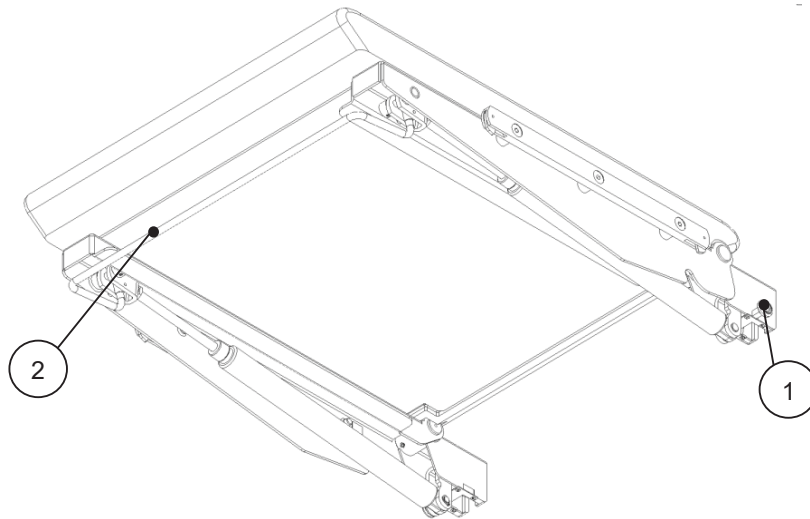

Fig. 8 Footrest plate
The footrest plate (fig. 8) is installed on the wedges found at the end of the seat. To install the footrest, put the footrest wedge socket on the wedge spigot in the seat. In order to do that the button does not have to be pushed (fig. 8, pos. 1) – the footrest will place itself in the correct position and lock itself on the spigot. It is advised to ask someone for help when disassembling the footrest. To take off the footrest, simultaneously push the two buttons on its sides and, with the buttons still pushed in, lift it up until it is taken off the wedge spigot in the seat. To change the angular position of the footrest, push the lever (fig. 8, pos. 2) triggering the gas spring mechanism. Releasing the lever locks the footrest in the set position.